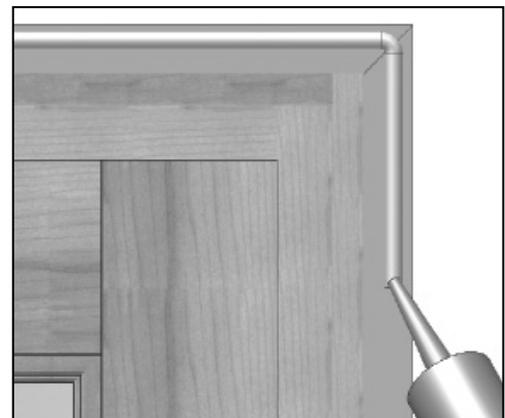

FIG. 9
- D) Apply sealant on the backside of the head and side brickmould. Apply a 1/4" continuous bead of silicone along the entire length a 1/4" from the outside edge of the brickmould. (Fig. 9)